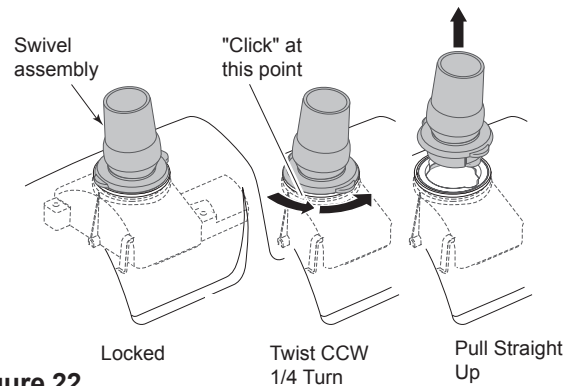

Figure 22
1. Remove swivel assembly (Figure 22) from the top of the cleaner by turning it 1/4-turn counterclockwise and pulling straight up on it.